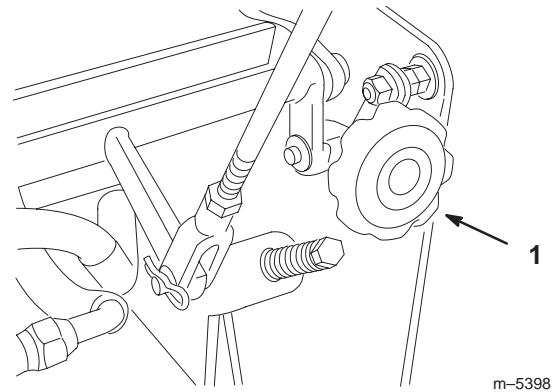

Figure 43
4. If the unit tracks to one side or the other, turn the quick track knob. Turn the knob right to steer right and turn the knob left to steer left (Fig. 43).